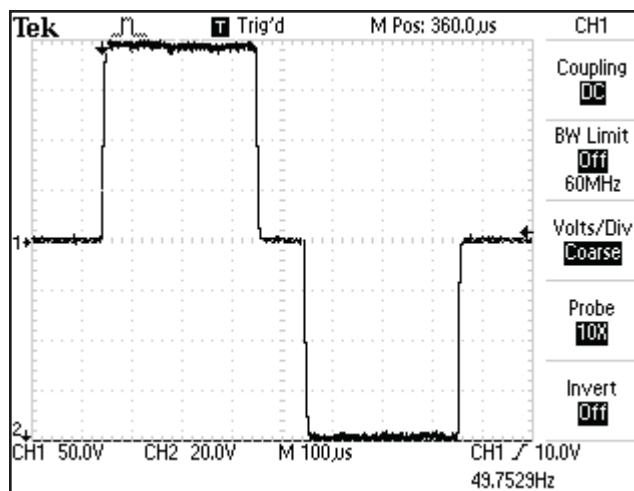

FIGURE 5.5
10. Compare waveform on scope to **Figure 5.5**.
1. Waveform is the same between scope and **Figure 5.5**.